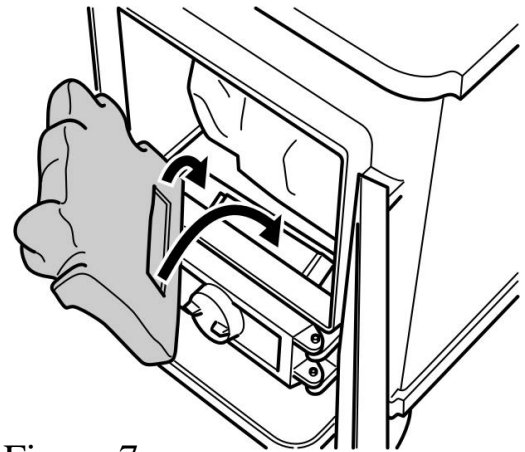

Figure 7.
5. On the front of the burner there is a bracket for supporting the front ceramic base. At the rear of the front ceramic base is a recess. Fit the front ceramic base piece locating the recess onto the forward projecting part of the burner bracket (See figure 7).